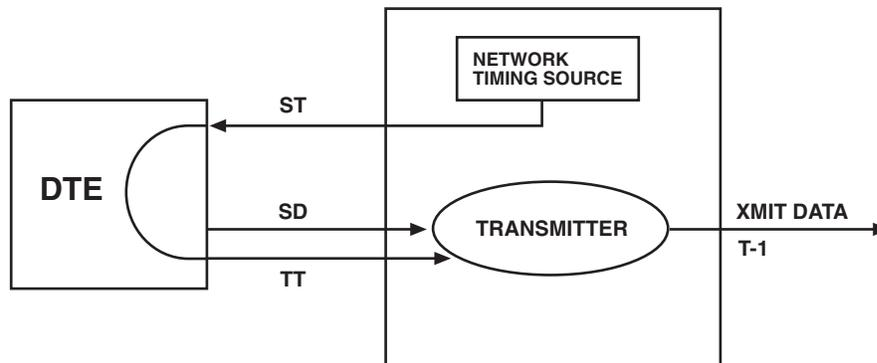

Figure 4-5. Loop 1 Timing Diagram.
Loop 1 Timing—This timing mode is used when Data Terminal Equipment (DTE), attached to Port A on the I/O interface module (Port B is not used), will return (loop) a Terminal Timing (TT) clock signal in response to receiving the Send Timing (ST) signal from the T1 CSU/DSU Card. See Figure 4-5.